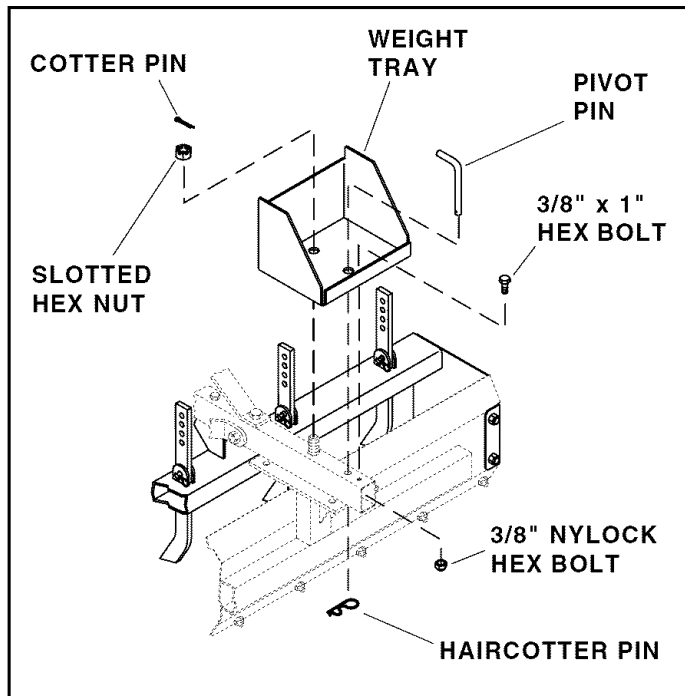

FIGURE 4
- Remove the pivot pin and the slotted hex nut from the mast assembly as shown in figure 4. Attach the weight tray to the end of the mast assembly using a 3/8" x 1" hex bolt and a 3/8" Nylock hex nut. Tighten nut and bolt.
- Reinstall the slotted hex nut onto the threaded stud. Tighten the slotted nut, aligning a slot with the drilled hole in the stud. Reinstall the cotter pin through the hole in the stud. See figure 4.
- Reinstall the pivot pin and secure the it with the haircotter pin. See figure 4.